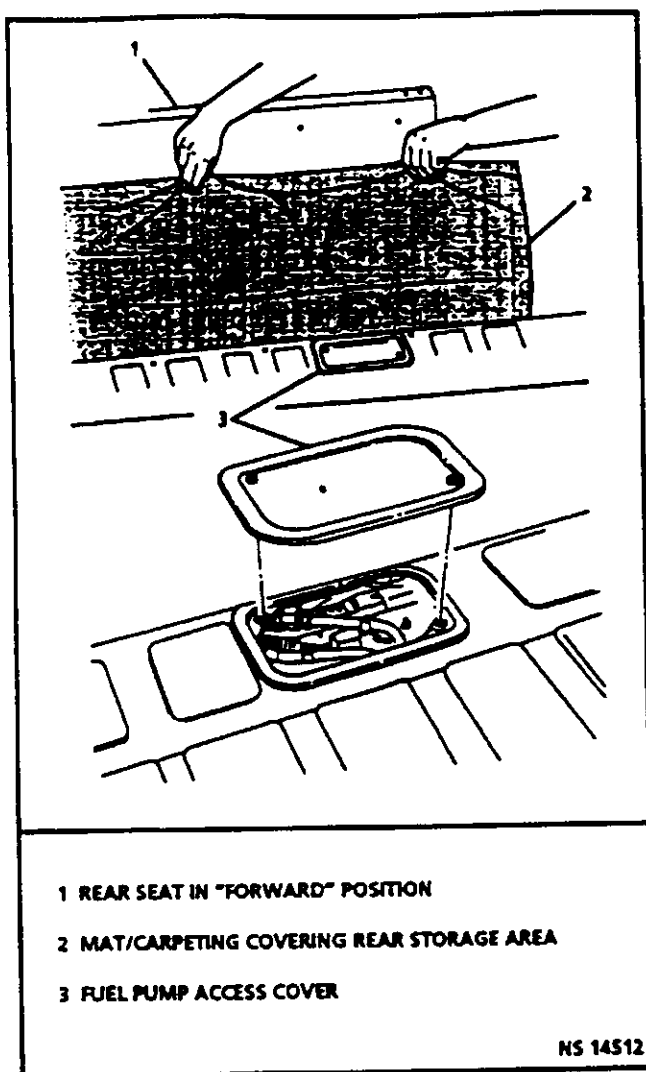

Figure 3.2-4 Fuel Pump Access Panel Location View.
2. Disconnect fuel pump connector at fuel pump (Figures 3.2-4 and 3.2-5).